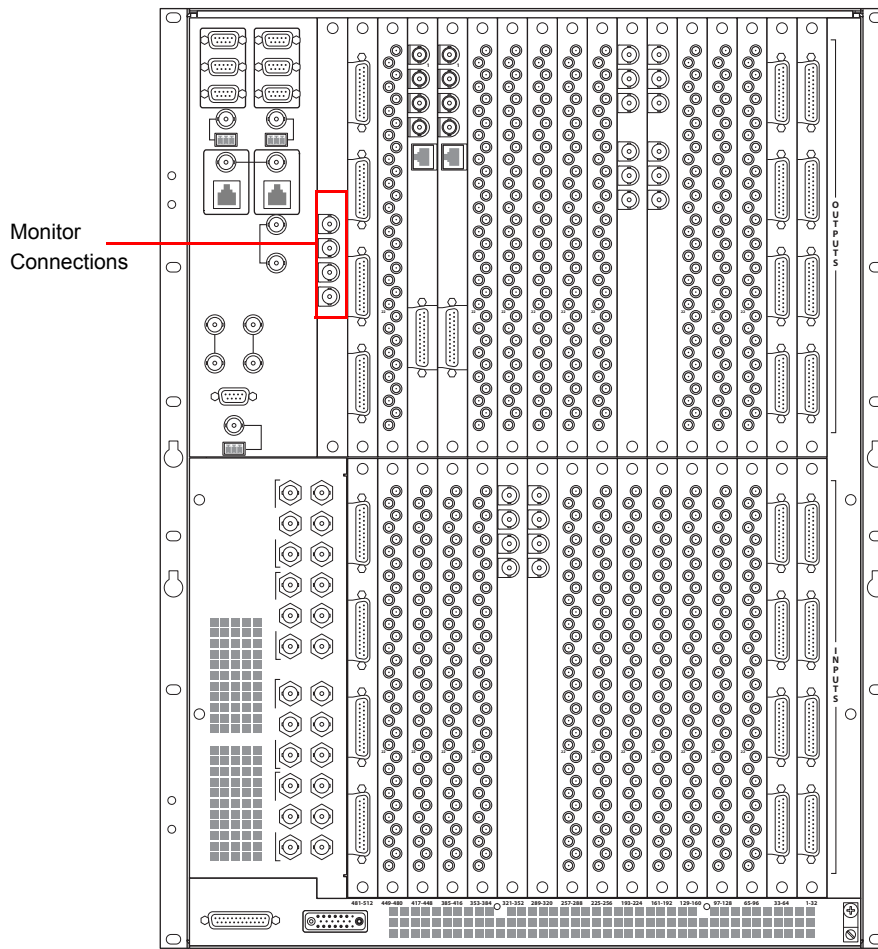

Figure 2-31. Monitor Connections (Rear View)
- 1 Locate the monitor connections on the rear of the router, as shown in Figure 2-31. Monitor connections are labeled, '1', '2', '3' and '4'.